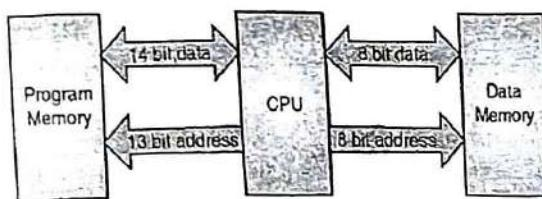

Fig. 1.5.2 : Block diagram for Harvard architecture of PIC microcontrollers
- Thus a faster flow of data is possible through the central processing unit, and of course, a greater speed of work. Separating a program from data memory makes it further possible for instructions not to have to be 8-bit words. Fig 1.5.2 shows block diagram for Harvard architecture in PIC controllers.